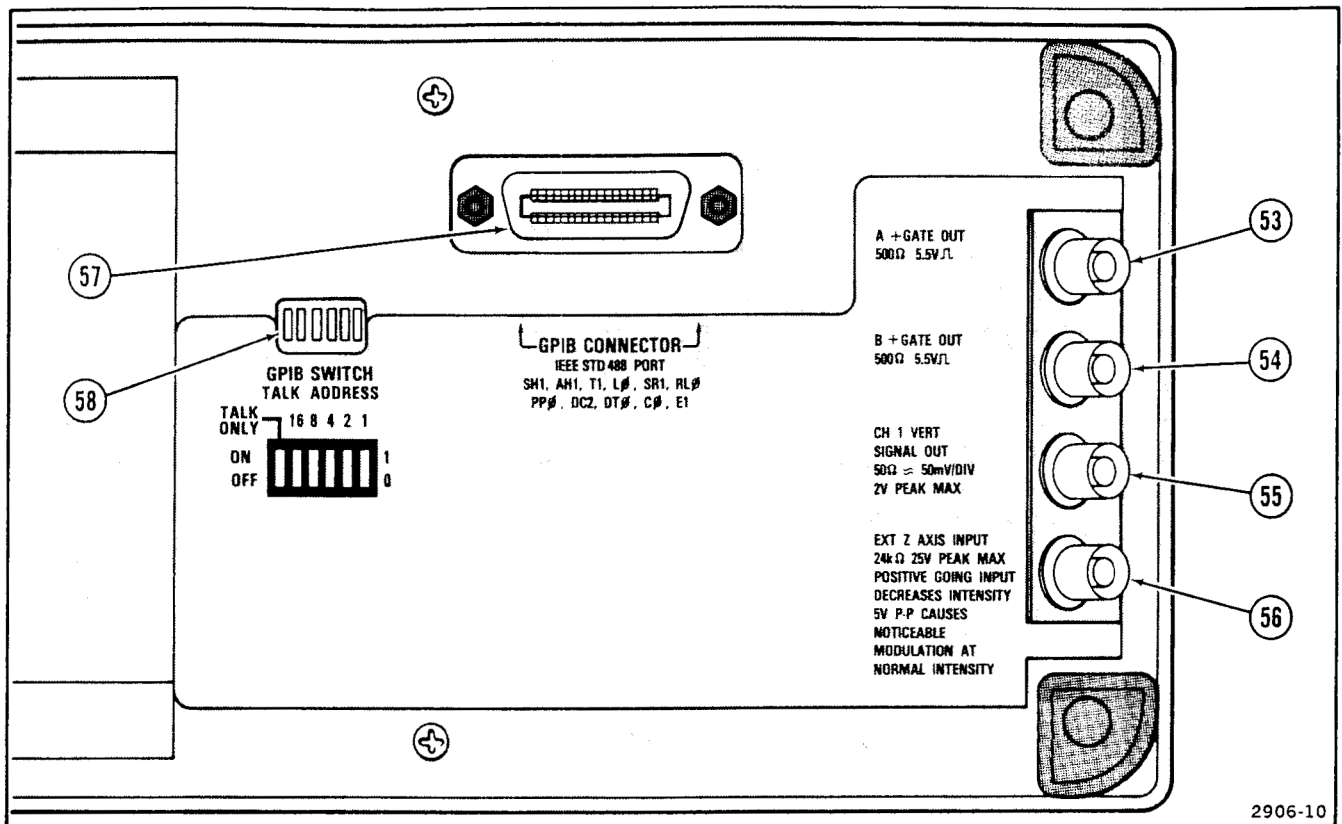

Figure 2-10. Rear panel controls and connectors.
Refer to Figure 2-10 for location of items 53 through 58.